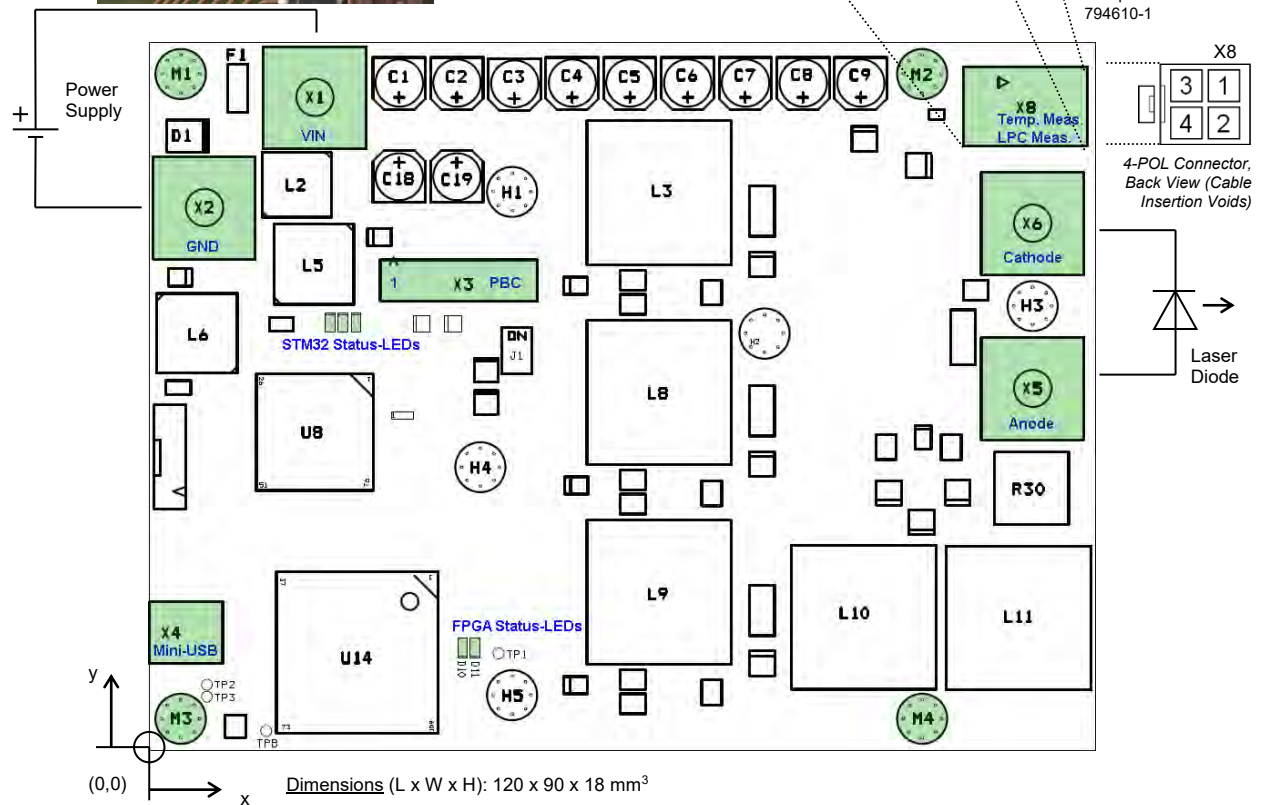

Figure 1. Schematic top view of an LDD-1121-based laser diode driver. Elements relevant to the end-user are highlighted.
- Locate the four mounting holes M1-M4 (see Figure 1)
- ☐ Either the green or the red STM32 Status-LED (see Figure 1) should be blinking / lit. The status of the blue LED can be ignored